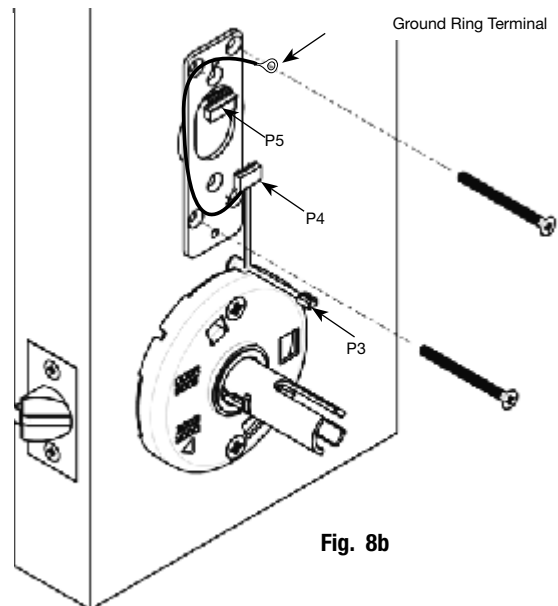

Fig. 8b
- c. Install two #8-32 x 1-3/4" flat head screws through mounting plate (Fig. 8b and 8c).